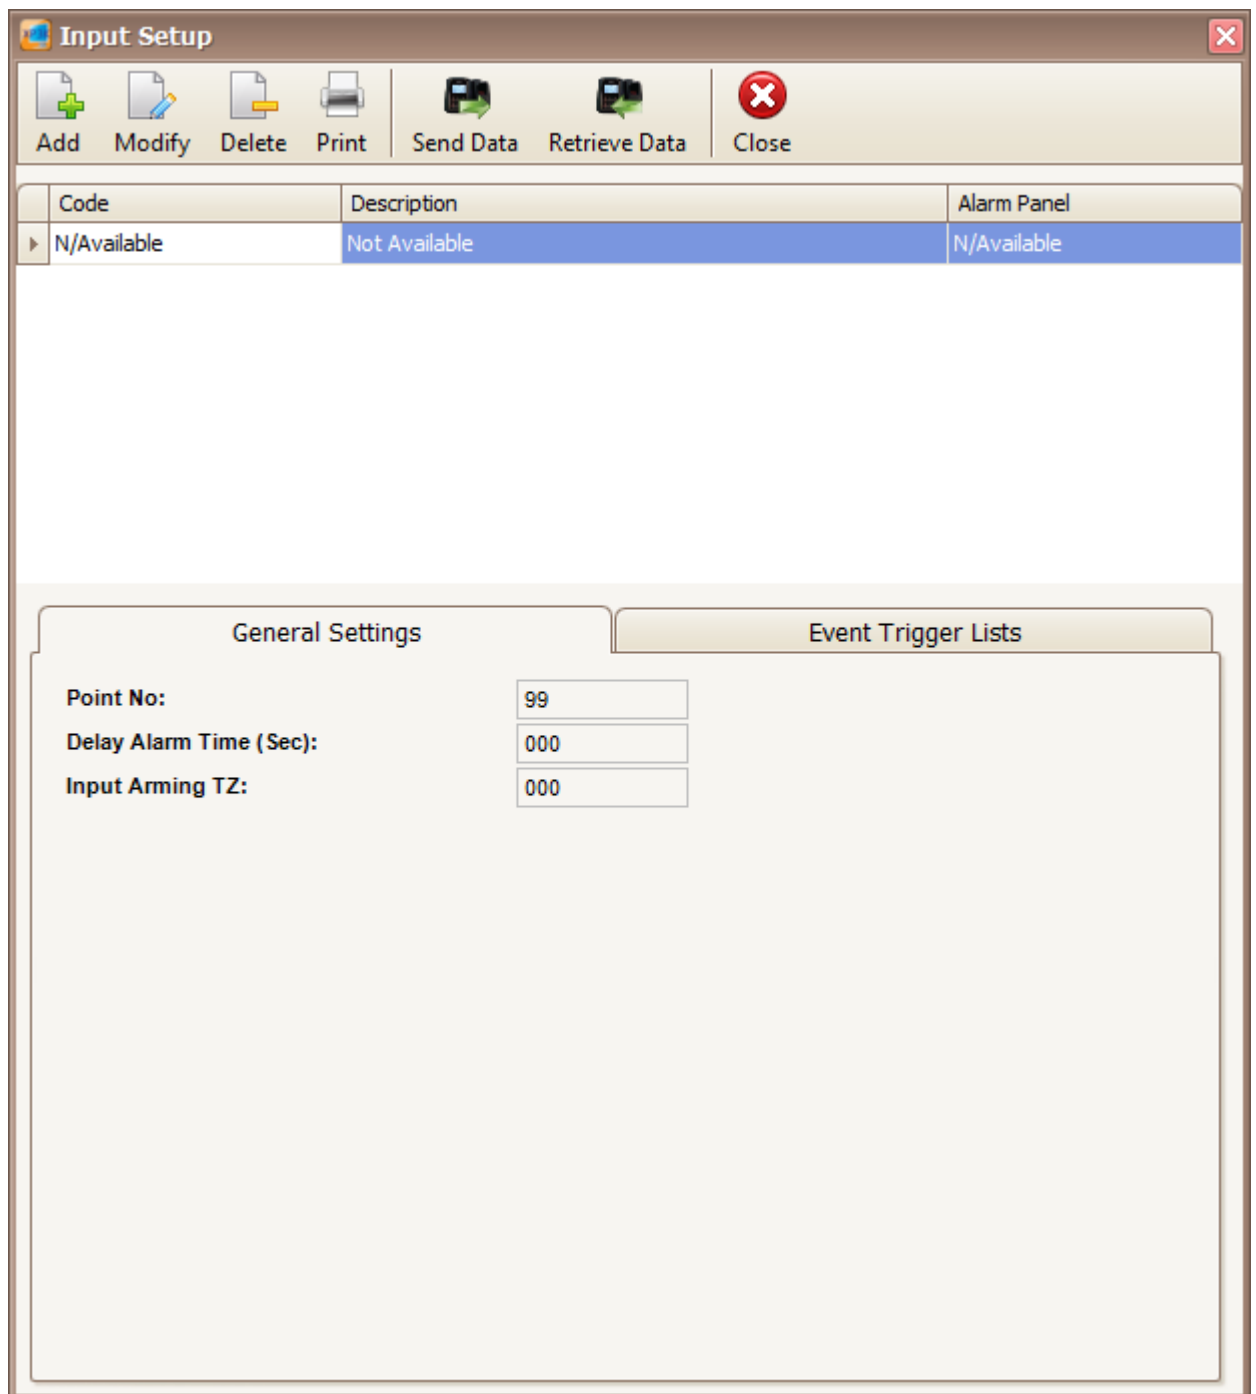

Figure 131 - Input Setup
2. The following window will be shown (*Refer **Figure 131***).